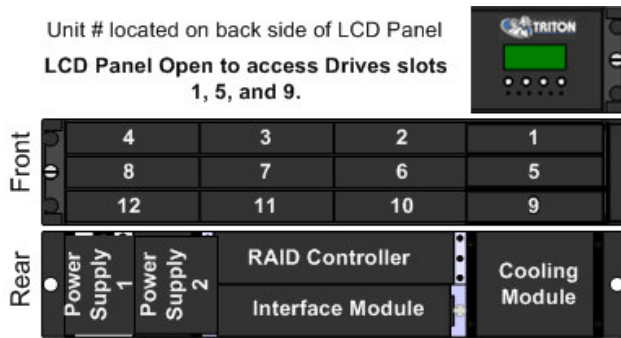

Figure 3—Module Locations and Drive Bays
The SurfRAID TRITON12S3 Storage System supports up to twelve (12) SATA disk drives per enclosure. Refer to Figure 3 for slot locations.
Important: If your SurfRAID TRITON Storage System was Pre-Configured the disk drives will be labeled with a slot number and unit number. The disks must go in the correct unit and in their correct slots. See Figure 3. and Pre-Configuration paperwork that shipped with your RAID system.
Before powering on the SurfRAID TRITON12S3 system, please ensure that all modules are firmly seated in their correct bays (See Figure 3)